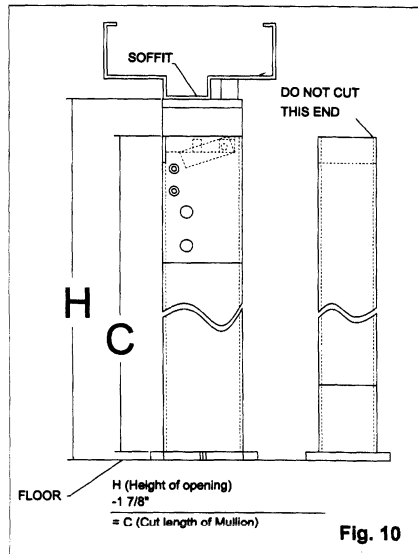

Fig. 10
1. Measure the distance from the soffit to the floor shown as "H" in Fig. 10. Then subtract 1-7/8" (47.5mm) from the measurement that is the actual length you need to use, shown as "C" in Fig. 10.